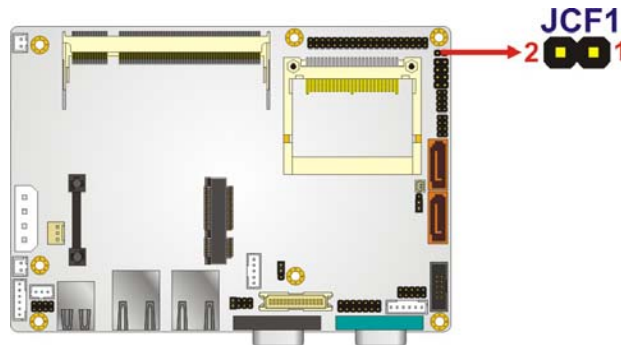

Figure 4-4: CF Card Setup Jumper Location
- Jumper Location:** See **Figure 4-4**